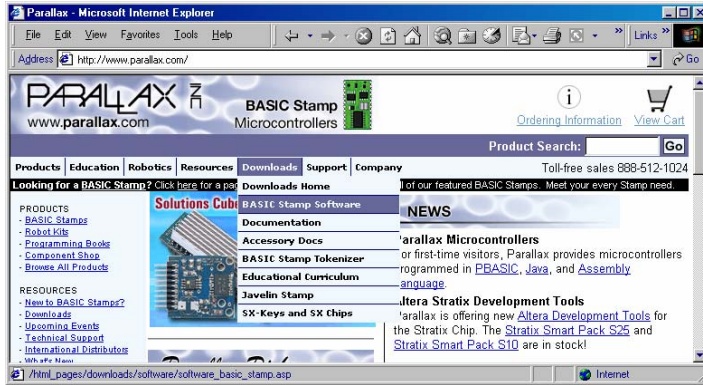

Figure 1-4
It's easy to download the BASIC Stamp Editor software from the Parallax web site. The web page shown in Figure 1-4 may look different from the web page you see when you visit the site. Nonetheless, the steps for downloading the software should still be similar to these:
- √ Using a web browser, go to www.parallax.com (shown in Figure 1-4).